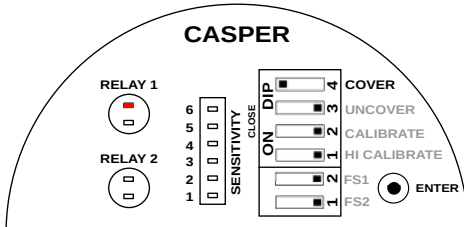

Figure 8: Cover Delay Switch Position
- To set the Cover Delay, set the COVER switch to CLOSE position as shown in Figure 8. (CLOSE is the opposite of OPEN for a DIP switch.) The STATUS RED LED will glow.
- To set the Cover Delay for Relay 1, set the COVER switch to CLOSE position as shown in Figure 8. (CLOSE is the opposite of OPEN for a DIP switch.) The STATUS RED LED will glow.